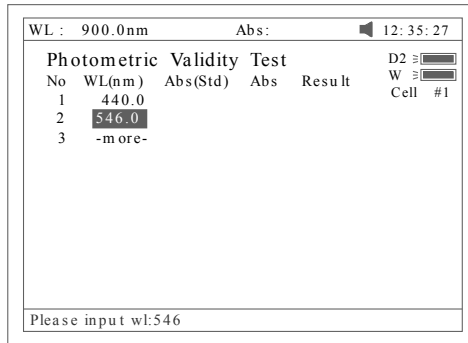

Fig 90
1. Press [SET λ] to set the wavelength. Press [ENTER] to edit and input wavelength by pressing the numeric keypad (Fig 90). [ESC/STOP] to finish inputting and exit.